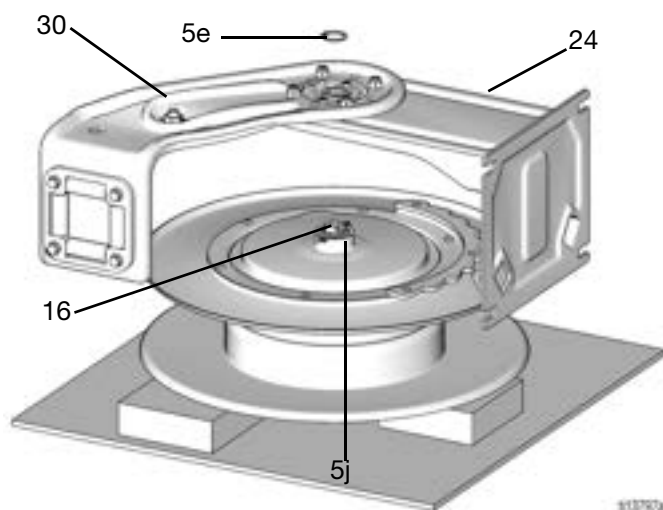

FIG. 22
10. Remove the snap ring (5e) (FIG. 22).
13. Place the new spool (5) on its side on a work bench, with the flat side of the spool facing downward and the ratchet side facing upward, see FIG. 22.
14. Position the guide arm (30) and pedestal base (24) assembly over the spool. Adjust, as needed, to align the parts.
NOTE: Re-attaching the guide arm (30) and pedestal base (24) assembly is easier when the spool (5) is supported and level. Placing 1 in. (25 mm) scrap wood blocks under the spool, as shown in FIG. 22, supports it during installation of the arm.
17. Install washers (15 and 17) and the long bolt (18), but do not tighten the bolt.
19. Place the guide arm (30) and pedestal assembly (29) over the swivel assembly and spool (5).
20. Install large nut (11) and tighten (torque 85 - 105 ft-lb/115.2 - 142.4 N•m) (FIG. 22).
21. Tighten the bolt (18) (torque 25 - 35 ft-lb (33.9 - 47.5 N•m)).
22. Align the guide arm (29) and guide arm (30), then install screws (27) and tighten torque 20 - 30 ft-lb (27.1 - 40.7 N•m).
23. Align the pedestal assembly (26) to the base (24). Install two screws (27) and tighten (torque 20 - 30 ft-lb (27.1 - 40.7 N•m)).